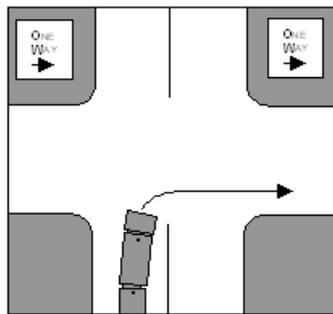

Fig 2
- 32.1.2 right into a one-way road, you must enter as near as practicable to the right boundary of the one-way road (Fig 2);